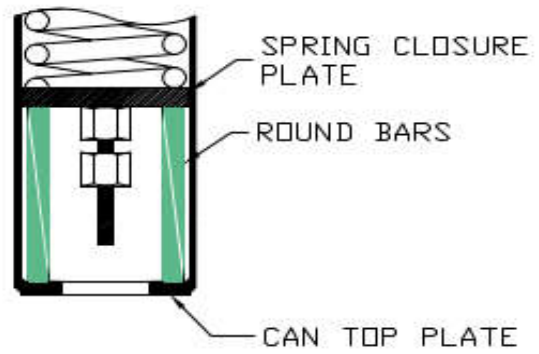

Figure 18D
4. Lower the load flange to pull in the closure plate until you are able to slide in the 2 round bars cut earlier in step # 2 (colored green in figure 18D on page 20). Make sure that they are placed opposite to each other between the can top plate and spring closure plates.